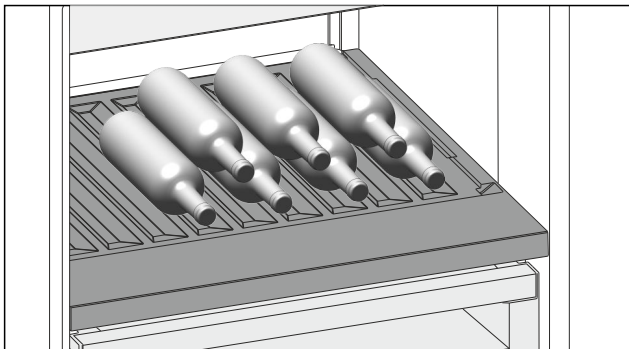

Fig. 111
- ▶ Place bottles in the back row with their bases against the back wall. (see Fig. 111)